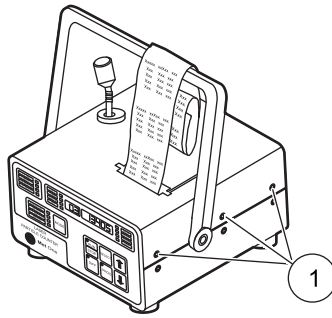

Figure 11 Position of screws on the top cover of the counter
1. Remove the six screws (three screws on each side) that hold the top cover on the counter (refer to Figure 11 on page 26).